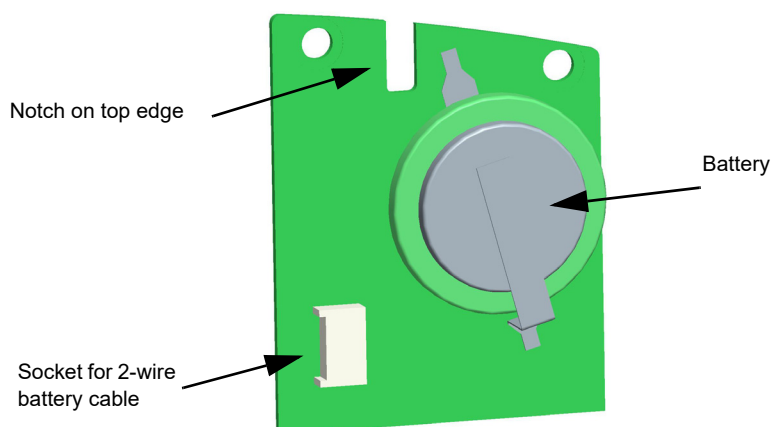

Figure 118 New battery board
5. Take the new battery board (Figure 118), and plug the two-wire battery cable into it.